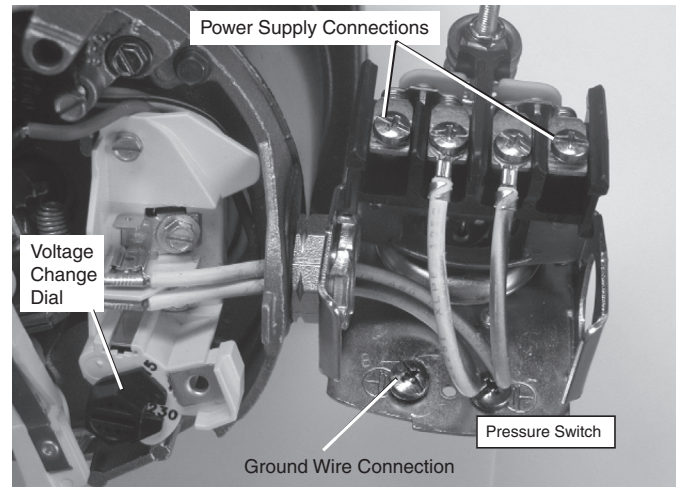

Figure 6: Voltage set to 230 volts, Dial Type
3. Attach the incoming power leads to the two outer screws on the pressure switch as shown in Figure 6.
4. Attach the ground wire to the grounding connections as shown in Figure 6.